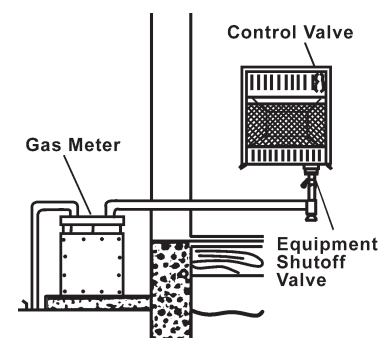

Figure 17 - Fuel Supply
3. Check all joints from gas meter to equipment shutoff valve (see Figure 17).
5. Check all joints from equipment shutoff valve to control valve (see Figure 17). Apply mixture of liquid soap and water to gas joints. If bubbles form, there may be a leak.